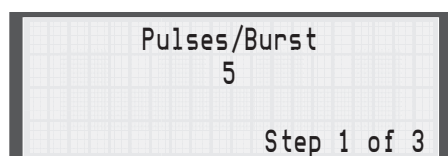

Fig. 2.28
5. Press the Duty Cycle key and use the Arrow keys to set the number of pulses (**Fig. 2.28**), then press the Enter key.